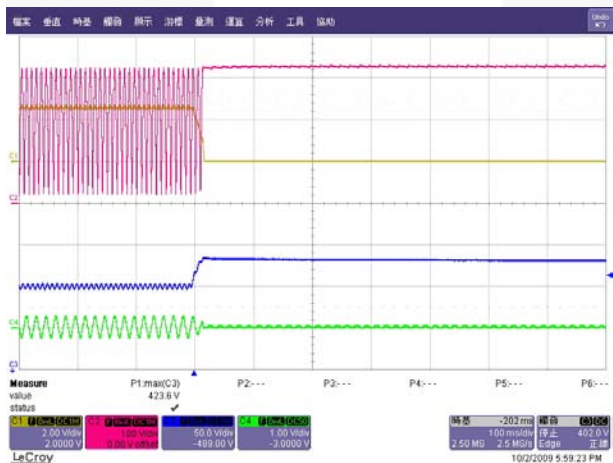
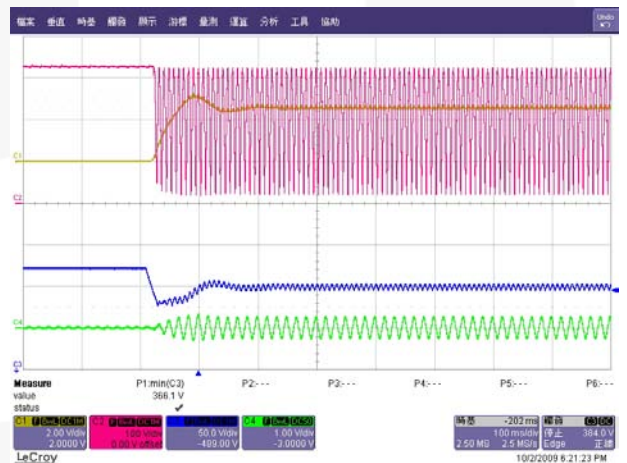

Figure 17. 230V_{AC} 100% to 0% Line Transient
Figure 18. 230V_{AC} 0% to 100% Line Transient
- Figure 17 and Figure 18 show the load-transient operation. When the output load changes from 100% to 0%, 23.6V (6.1% of nominal output voltage) voltage overshoot is observed. When the output load changes from 0% to 100%, 23.9V (6.13% of nominal output voltage) voltage undershoot is observed.